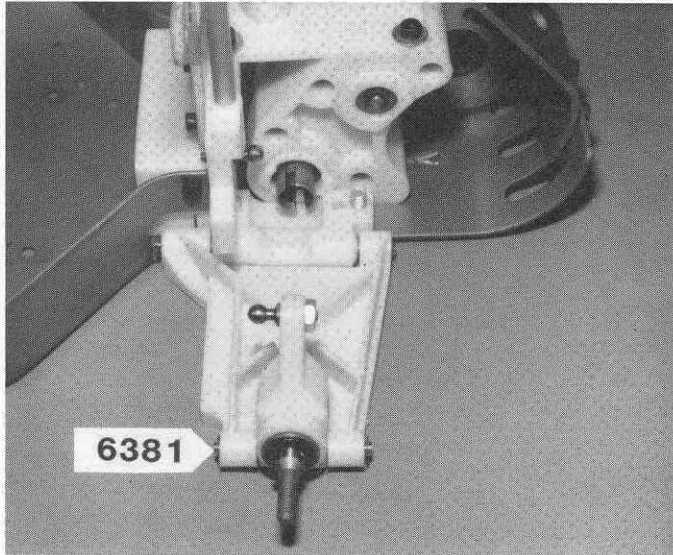

Fig. 112
□ **Fig. 112** Install the LH hub carrier in the LH "A" arm with the #6381 outer hinge pin. Install 2 "E" clips. Install a long ball end in the forward side of the hub carrier, as shown, and install the nut. Install the R.H. hub carrier.